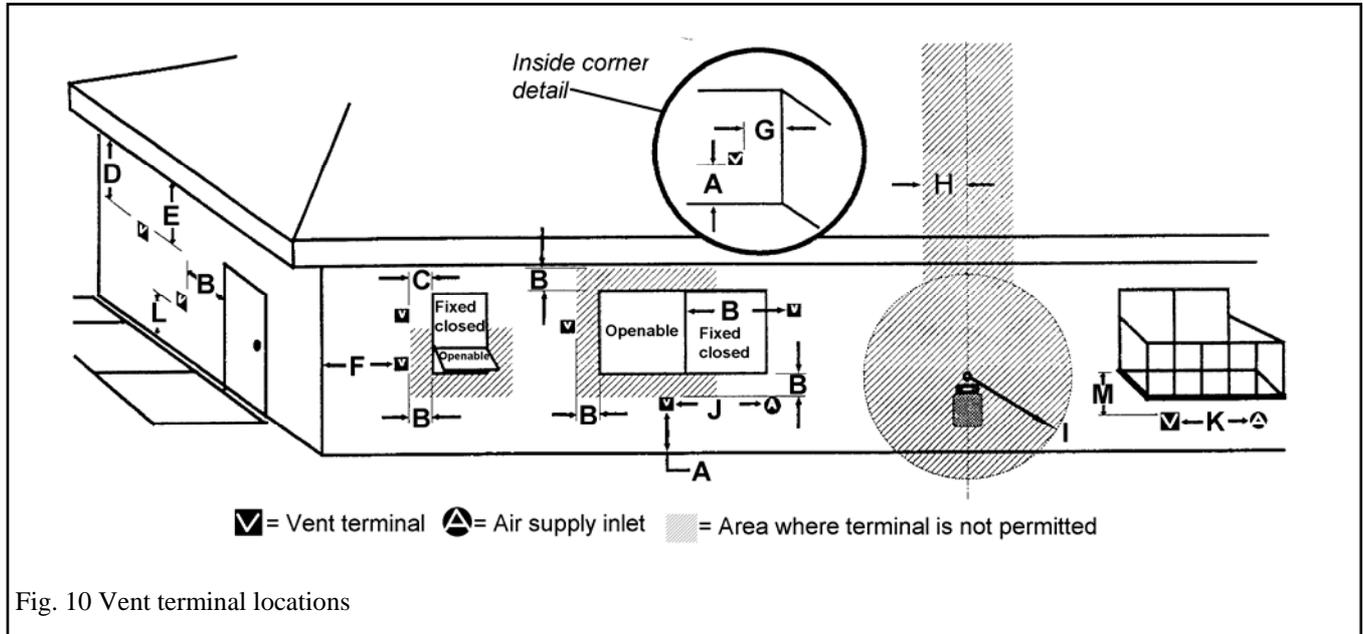

Fig. 10 Vent terminal locations
- The minimum clearances from this terminal that must be maintained when located on an outside wall are shown in figure 10. Any reduction in these clearances could result in a disruption of the airflow or a safety hazard. Local codes or regulations may require greater clearances.